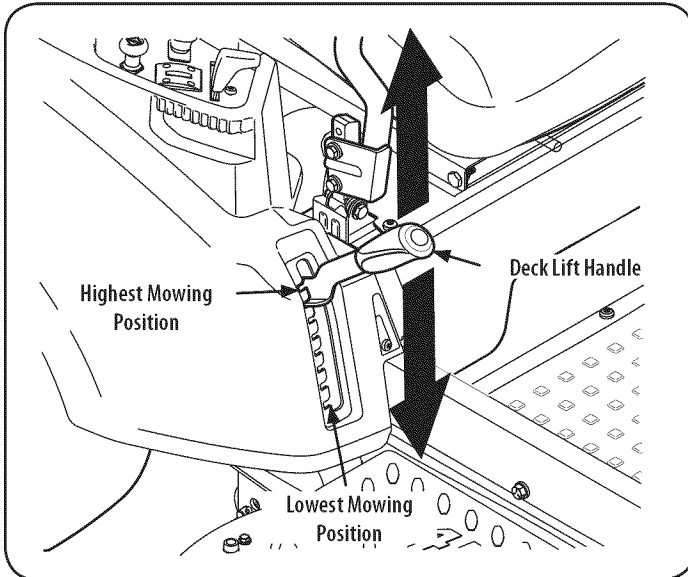

Figure 31
- a. Using the deck lift handle, raise the deck to the position that provides the most horizontal run of the belt between the deck idler pulleys and the PTO pulley on the bottom of the engine. See Figure 31.
6. Lower the deck into the lowest position using the deck lift handle. See Figure 31.
1. Place the deck lift handle in the highest mowing position. See Figure 31.